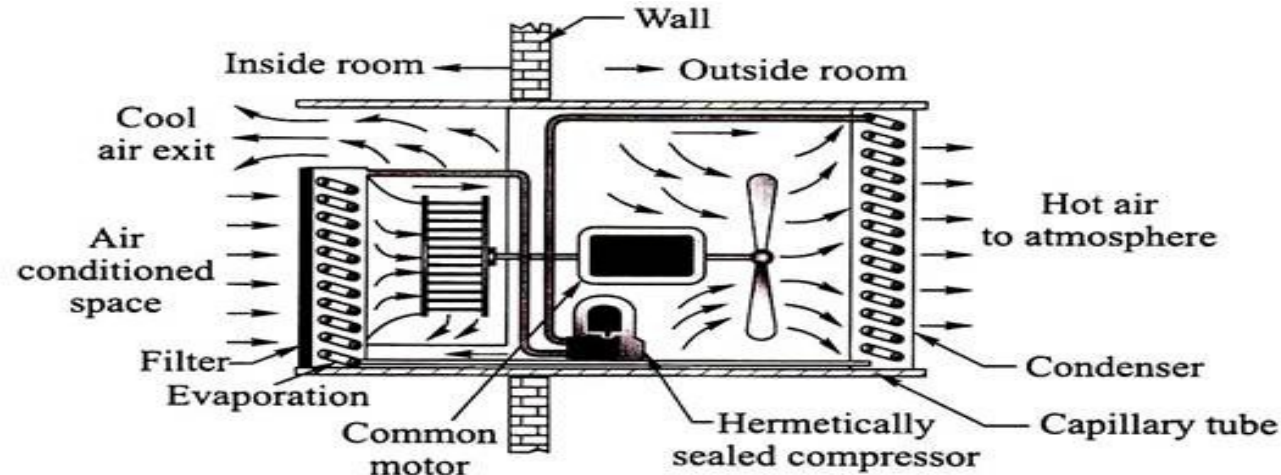

Fig. 6.16 Window air conditioner
- Window air conditioner is a simple air conditioning unit fitted with the room wall or window. In this unit air is not supplied to the room through duct system. This consists of a complete vapor compression system having compressor, condenser, evaporator, expansion device with motor, blower, fan, air filter, grills, fresh air damper, and control panels as shown in Fig. 6.16.